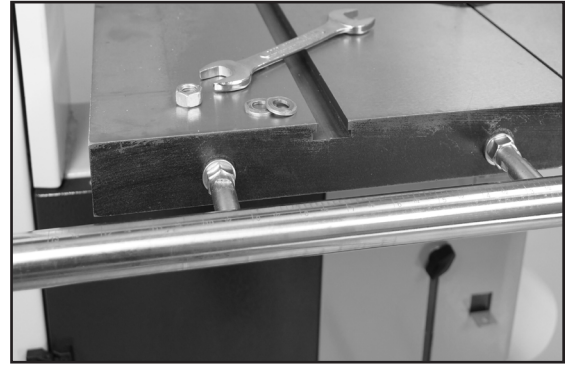

Figure 5
1. Mount the fence Guide Rail (#12F) onto the front table edge with the two fence bar Nuts and Washers (#14F, 5F) Fig. 5. Position the bar so that it is parallel with the table surface, and equal distance out from the front edge of the table when measured at both left and right front edges of the table.